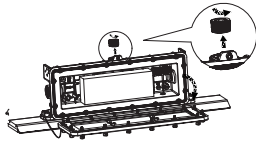

Figure 14
1. Remove the plugging screw (Figure 14).
1. Retirer la vis d'obturation (figure 14).